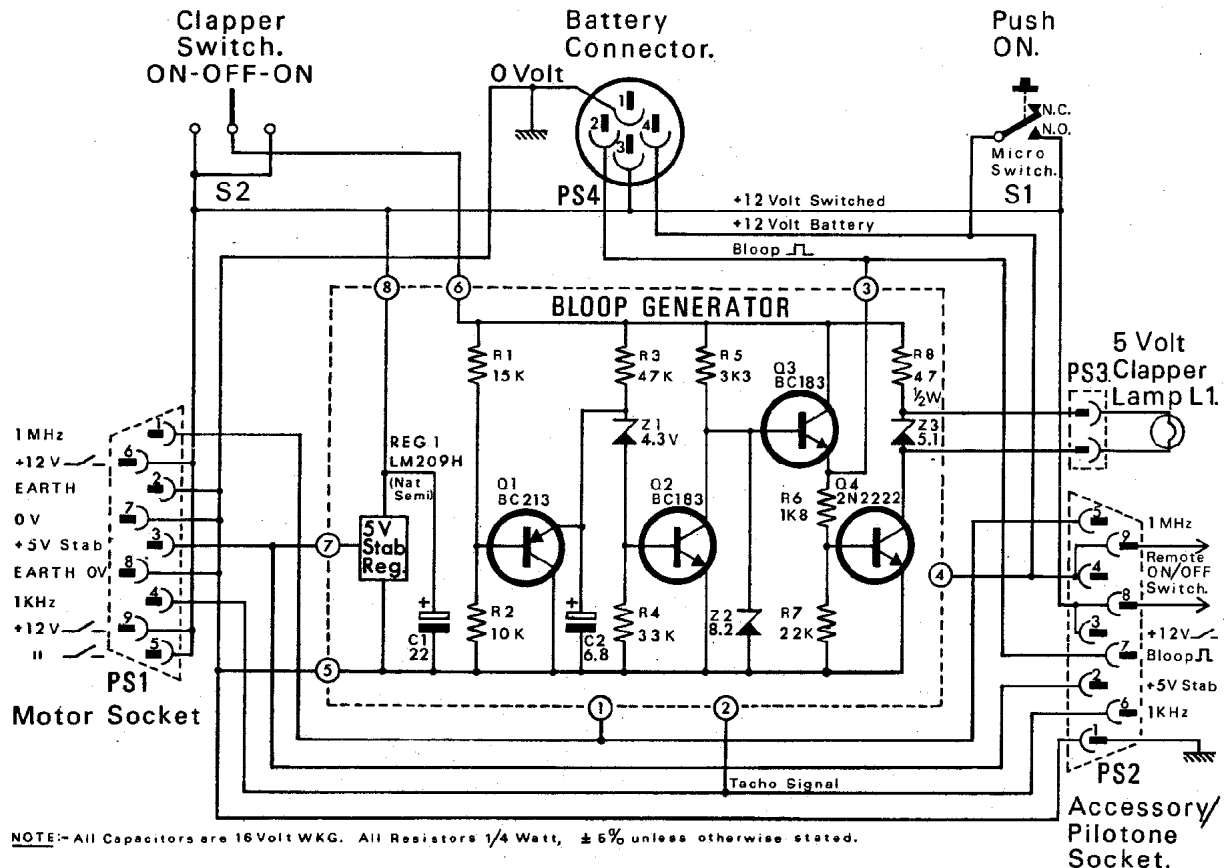

FIG. 4. EMBASE UNIT CIRCUIT DIAGRAM
6. The clapper light circuit. (fig.4)
9. The bloop generator. (fig. 4)